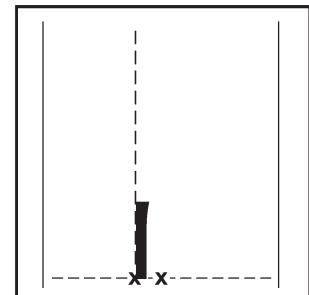

Figure 67
- Lay out the curve arrow base (liner still on) with the **LEFT** edge against the chalk line and the base along the base line (see Figure 67).